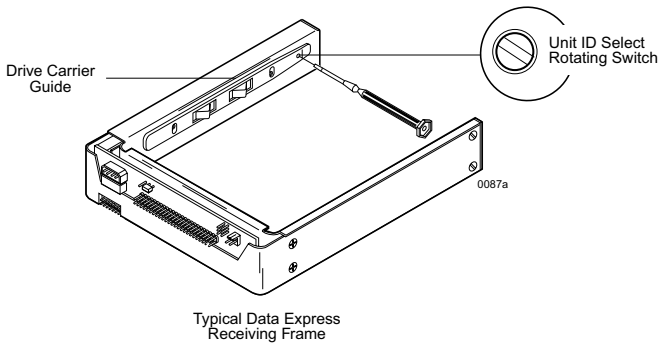

Figure 9: Unit ID Select Switch Location
- **Unit ID Number Indicator** (Figures 3A & 3B) - This LED displays the physical address of the DE110 device carrier if the carrier is *Installed and Locked* in the receiving frame or if the carrier is *removed* from the receiving frame. If the carrier is *Installed but not Locked* in the receiving frame, a "u" will be displayed to indicate an unlocked condition. The unit ID number is selected by means of the unit ID select switch inside the receiving frame using a special alignment tool supplied with the DE110 (see Figure 9).
3. Use the alignment tool supplied with the DE110 to select the ID number of the disk drive. Refer to Figure 9 for the location of the ID Select Switch inside the receiving frame. Table 1 lists the valid unit ID numbers available for the drive.